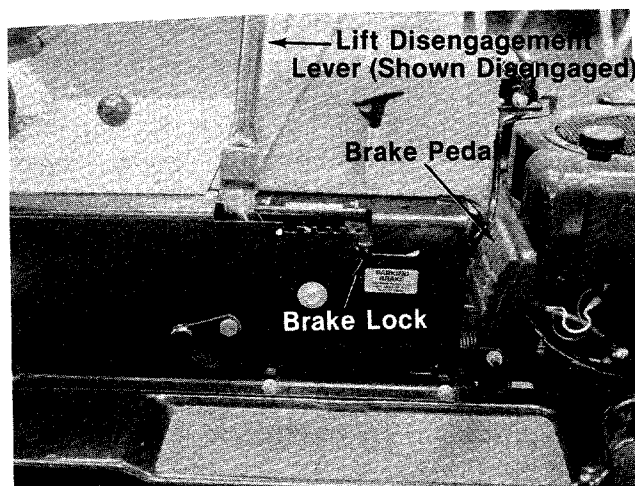

FIGURE 15.
c. **Brake.** The brake pedal is located on the right hand side of the mower and is operated by depressing it with your right foot. See figure 15.
d. **Brake Lock.** The brake lock is located on the right hand side of the mower. To lock the brake, depress the brake pedal and lift up the lock button. The pedal will stay depressed. To release, depress the pedal. See figure 15.
k. **Lift and Disengagement Lever.** It is used to raise the cutting deck. Pulling it all the way back and locking it disengages the blades. The engine will not start unless the lift and disengagement lever is in the disengaged position. See figure 15.
4. Place the lift and disengagement lever in the "DISENGAGED" position. See figure 15.
To stop the blades, move the lift and disengagement lever (figure 15) into the DISENGAGED position. This raises the deck and disengages the blades.